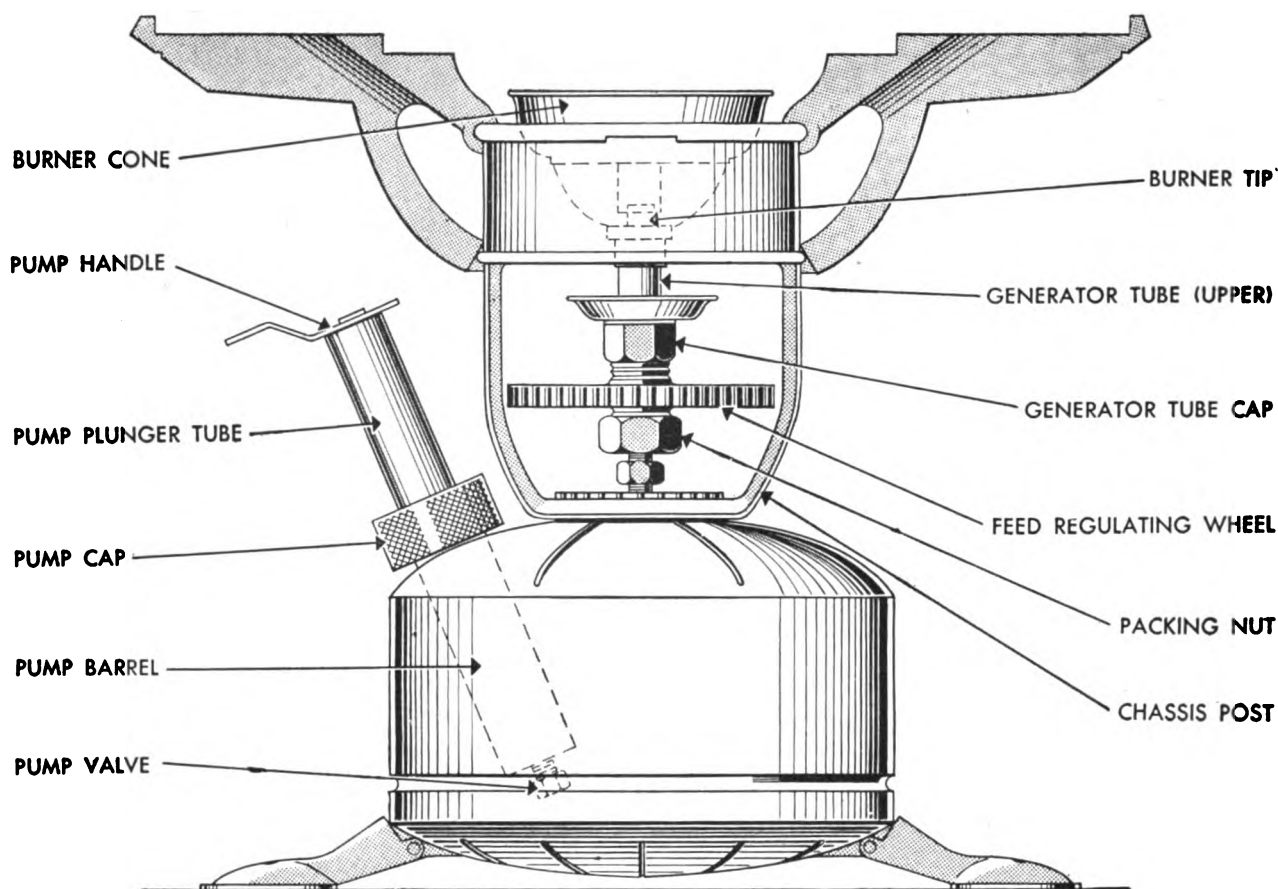

Figure 2. Detail of stove, cooking, gasoline, M1942, one-burner.
#### 2. How to Light and Operate. (see figs. 2, 3, and 4)
b. To clean the tip, turn the feed regulating wheel (see Fig. 2) under the burner to the right as far as it will go. (See *g* and *h* below.)
### 3. Maintenance (see figs. 2, 3, and 4)